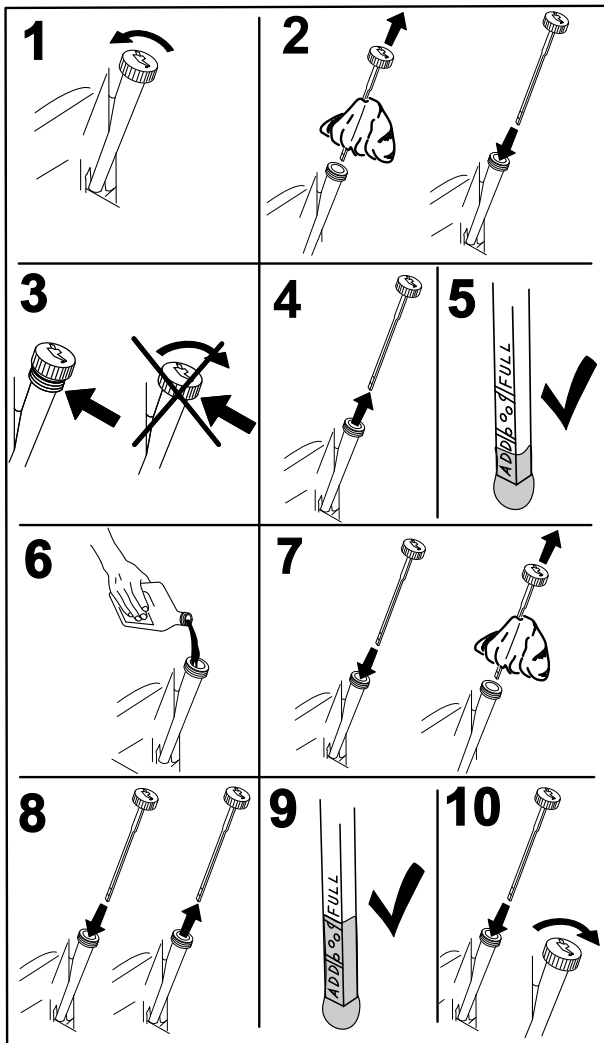

Figure 48
2. Stop the engine, remove the key, and wait for all moving parts to stop before leaving the operating position (Figure 48).